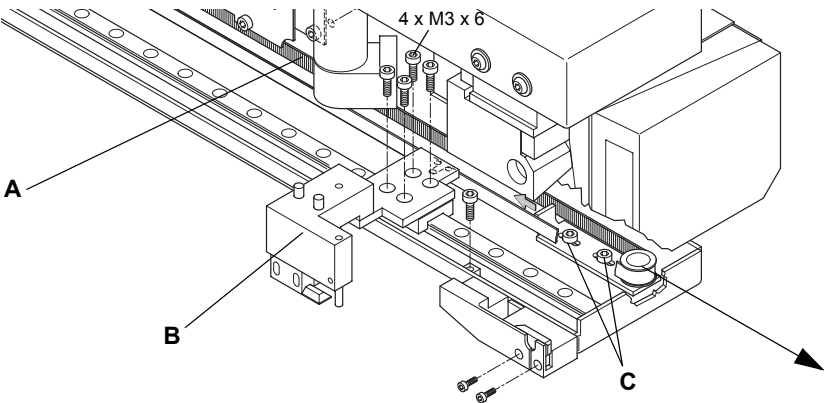

Fig. 8-138 Y-belt, gripper assembly
- Pull at the belt tensioner with a force of 3–5 N in the direction of the arrow in Fig. 8-138, Fig. 8-120.
- Tighten the belt tensioner screws (C).